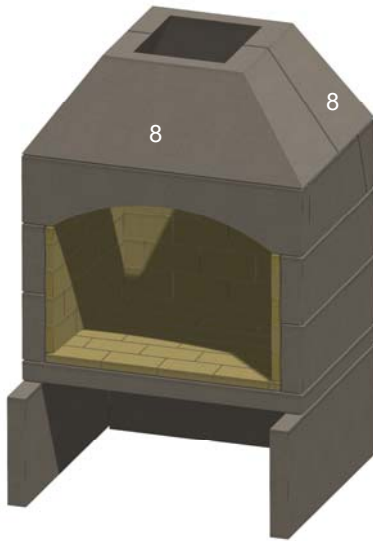

Figure 21. Throat Pieces
M. Install the tapered front and rear throat pieces. See Figure 21.